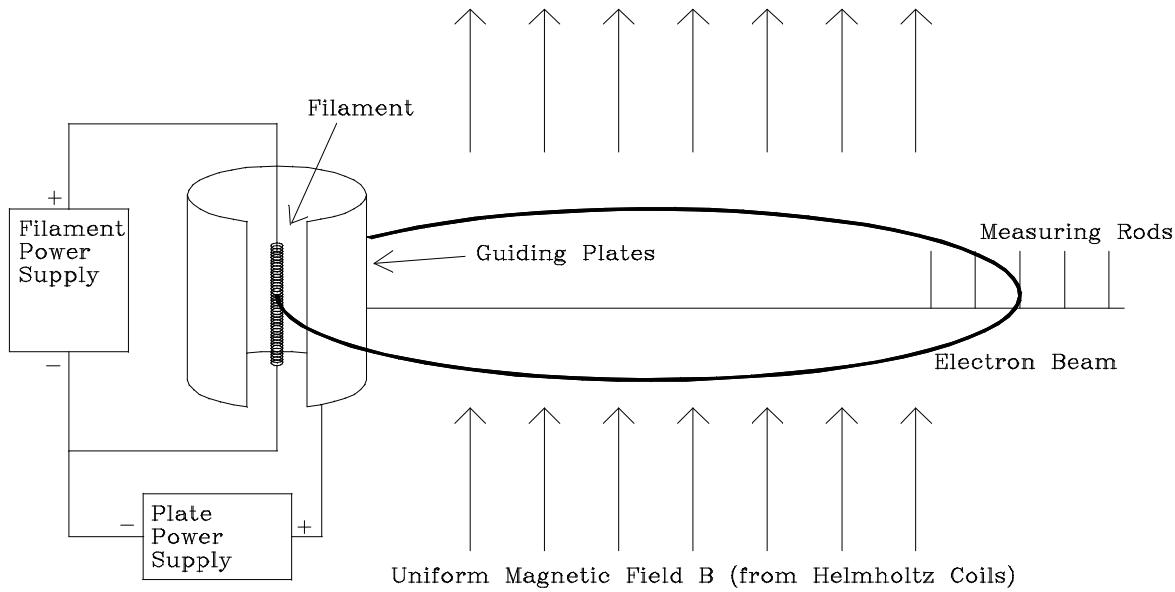

Figure 1. Diagram of the interior of the sealed glass tube.
Figure 1 shows the filament surrounded by a small cylindrical plate. The filament is heated by passing a current directly through it. A variable positive potential difference of up to 100 volts is applied between the plate and the filament in order to accelerate the electrons emitted from the filament. Some of the accelerated electrons come out as a narrow beam through a slit in the side of the cylinder. The entire tube is located inside a set of coils, which produce a uniform magnetic field B perpendicular to the electron beam. The magnitude of the field can be adjusted until the resultant circular path of the electron beam just reaches one of the measuring rods. These rods are located along a cross bar, which extends from the cylinder in a direction perpendicular to that in which the electron beam was emitted--i.e., along a diameter of the circular orbits.
- a) Figure 1 shows that the filament and its associated lead wires form a small loop. Since a 4 amp current is required to heat the filament, this loop creates a measurable field. The filament coil reversing switch permits you to study the effect of this field. The effect can be minimized in the experiment by rotating the tube slightly in its mounting so that the electrons come out parallel to the plane of the coils.